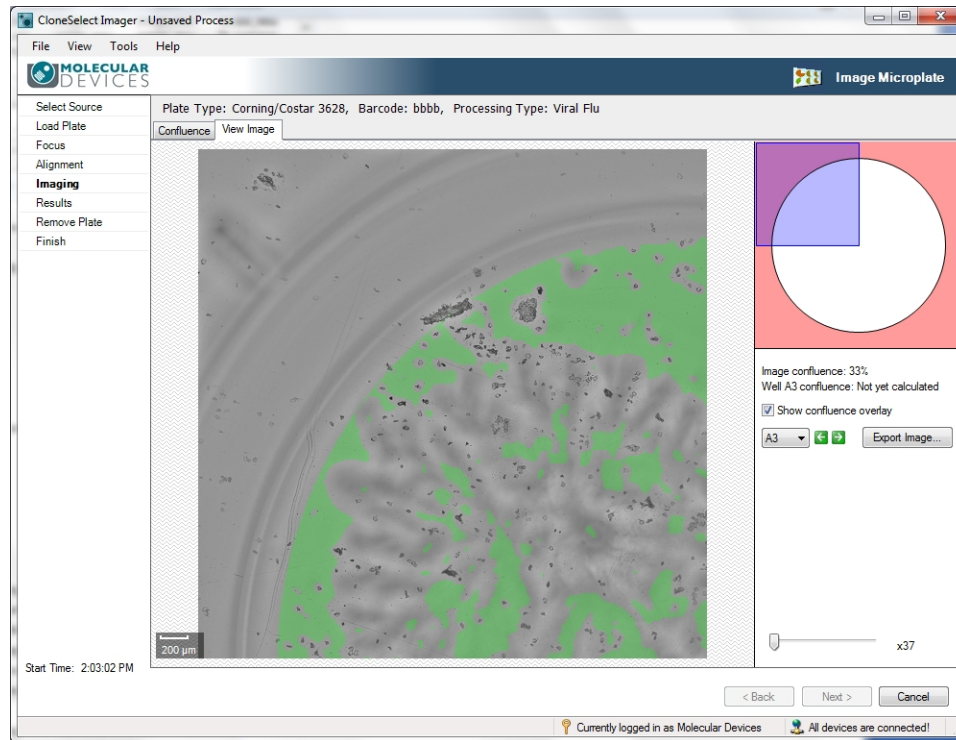

Figure 4-8: View Image screen
2. In the **View Image** tab screen (Figure 4-8), you can use the following controls: